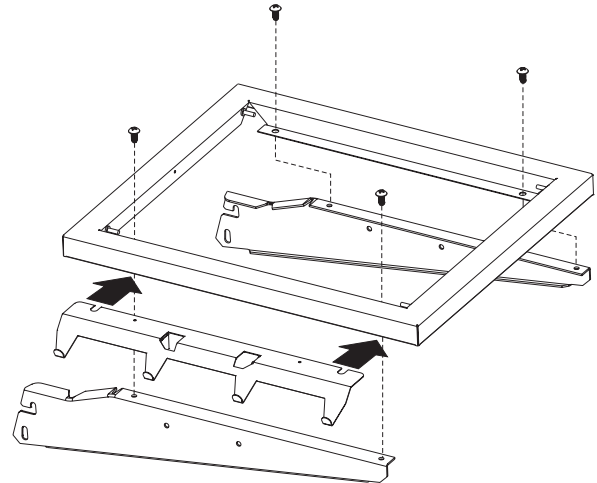

Figure 8
4. Secure the two support brackets to the bottom of the side shelf frame with four 1/4-20 x 1/2" screws. Leave the two front screws loose. See Figure 8.
5. Insert the tool hook bar in front between the frame and the support brackets as shown in Figure 8. Tighten the remaining two screws from step 4.